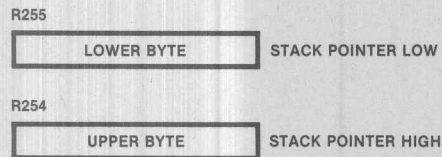

Figure 3-7. Stack Pointer
The register pair R254 and R255 forms the 16-bit Stack Pointer (SP) which is used for all stack operations. The stack address is stored with the MSB in R254 and LSB in R255 (Figure 3-7).